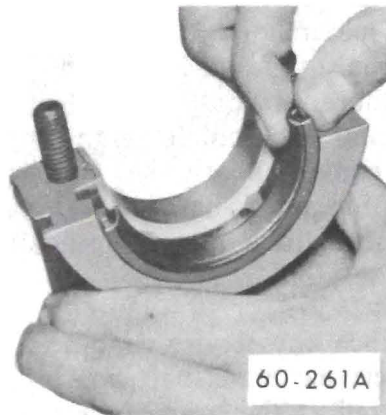

Figure 60-122 - Removing Rear Main Oil Seal (Lower)
2. Remove oil seal from the groove by lifting the end tab then clean seal groove. See Figure 60-122.